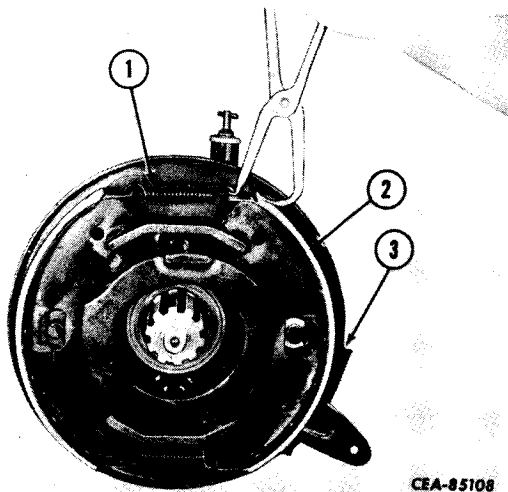

Figure 5-21
Using a brake spring pliers, remove the brake springs (1, Fig. 5-21) from the brake shoes (2) as shown.